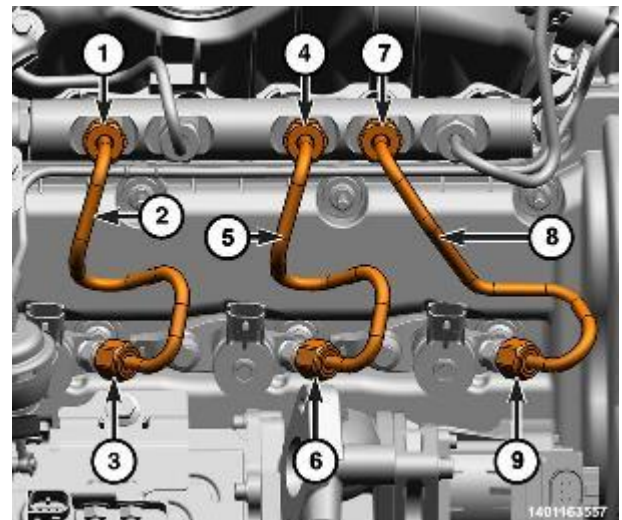

Figure 106 – Right Fuel Injector Tubes
- 24. Unscrew the union nuts (7 and 9) and remove cylinder No. 1 fuel tube (8) and the discard fuel tube (Figure 106).
- 25. Unscrew the union nuts (4 and 6) and remove cylinder No. 2 fuel tube (5) and discard the fuel tube (Figure 106).
- 26. Unscrew the union nuts (1 and 3) and remove cylinder No. 3 fuel tube (2) and discard the fuel tube (Figure 106).